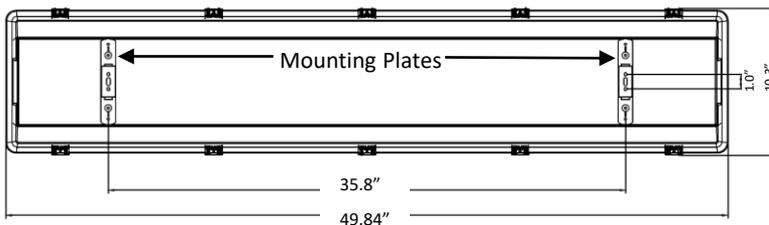

Figure 1
- For Surface Mounting:** Remove two mounting brackets and 4 screws from hardware bag (provided in housing) and attach the brackets to the ceiling or mounting surface. (Brackets are mounted 35.8" center to center). Align the bottoms of the mounting brackets with the centers of the mounting plates and snap the luminaire into place. (See Fig.1 and 2)